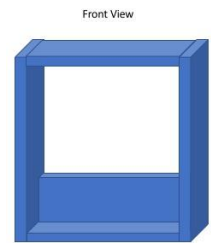

Figure 2
- Secure one of the 450mm boards to the back of the frame to create a backstop for the dropped food (see Figure 2).